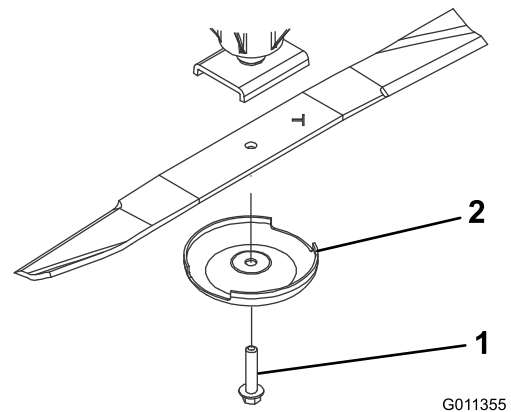

Figure 76
- Remove the blade bolt, anti-scalp cup, and blade from the spindle shaft (Figure 76).